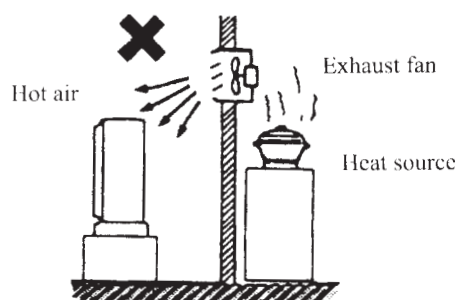

Fig. 12
- Heat source and exhaust fan, etc. (see Fig. 12)